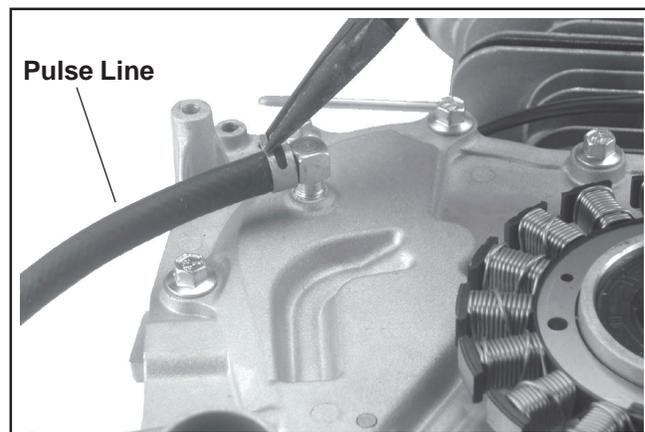

Figure 10-44. Connecting Pulse Line to Fitting.
- If a fitting is used, connect the fuel pump pulse line and secure with the clamp. See Figure 10-44.